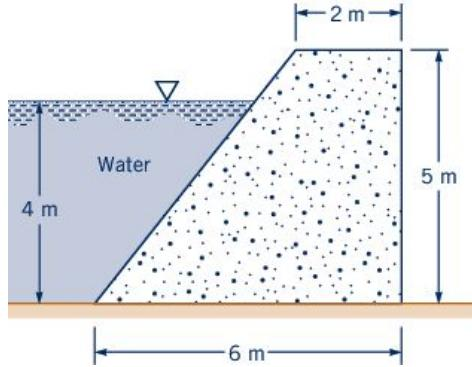

Figure 6: see problem 2.3
**Problem: (a)** The concrete dam in Figure 6 weighs  $23.6 \text{ kN/m}^3$  and rests on a solid foundation. Determine the minimum coefficient of friction between the dam and the foundation required to keep the dam from sliding at the water depth shown. Assume no fluid uplift pressure along the base. Base your analysis on a unit length of the dam.